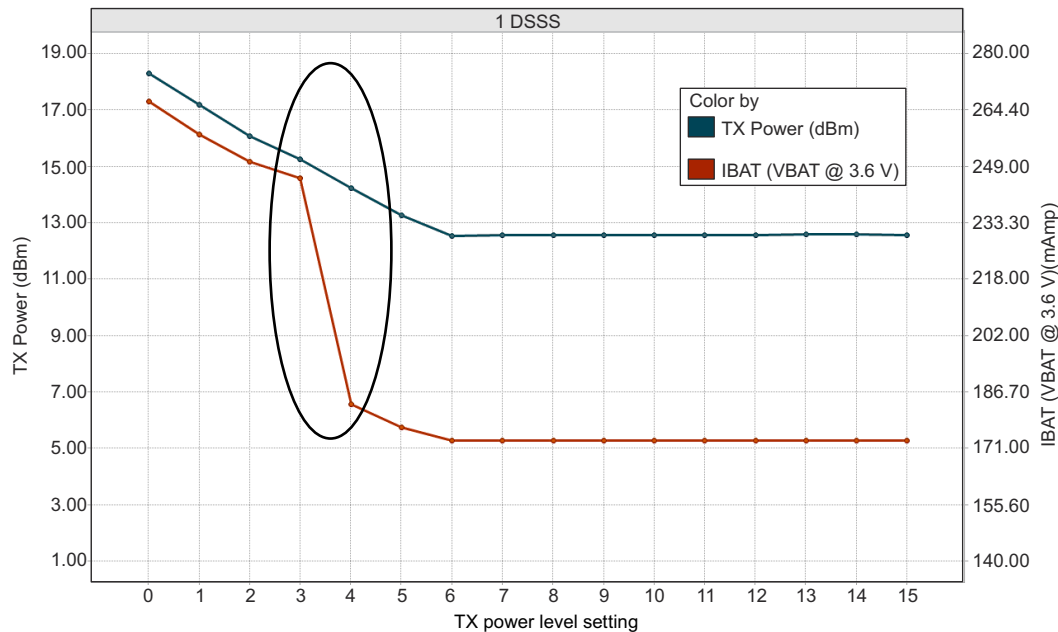
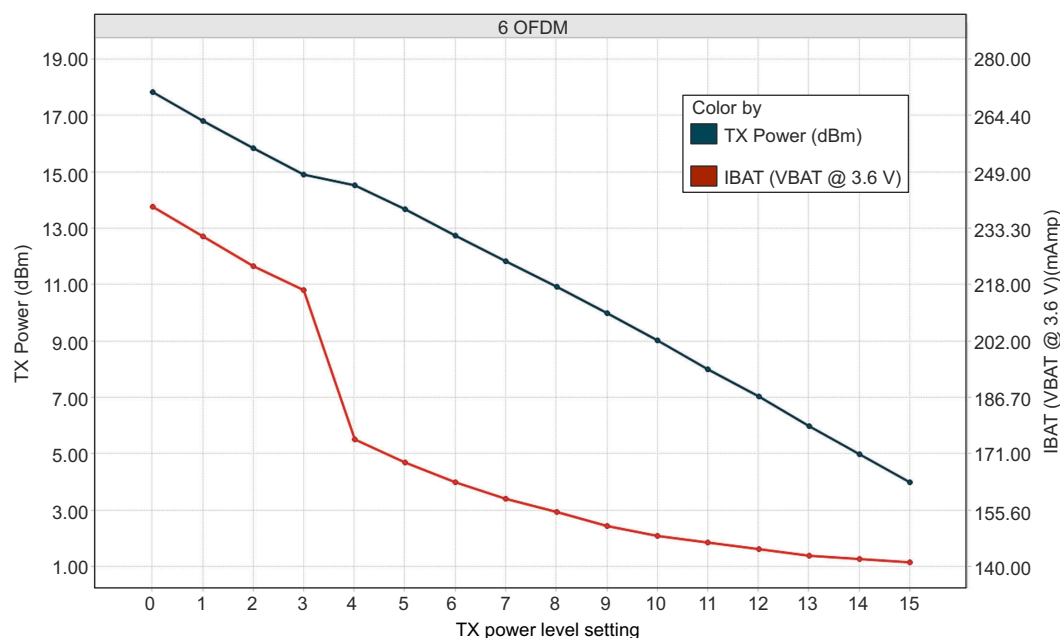
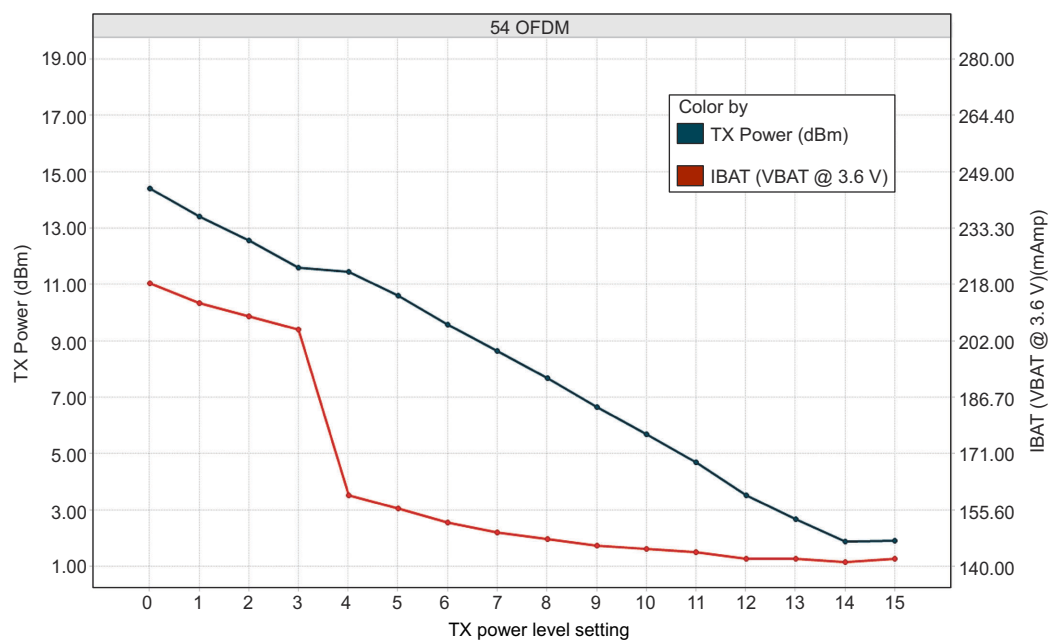

Figure 7-1. TX Power and IBAT vs TX Power Level Settings (1 DSSS)
Figure 7-2. TX Power and IBAT vs TX Power Level Settings (6 OFDM)
Figure 7-3. TX Power and IBAT vs TX Power Level Settings (54 OFDM)
- (1) TX power level = 0 implies maximum power (see Figure 7-2, Figure 7-2, and Figure 7-3). TX power level = 4 implies output power backed off approximately 4dB.
- (2) LPDS current does not include the external serial flash. The CC3235MODx and CC3235MODAx can be configured to retain 0KB, 64KB, 128KB, 192KB, or 256KB of SRAM in LPDS. Each 64-KB block of MCU retained SRAM increases LPDS current by 4 μA .
- (3) DTIM = 1
- (4) The complete calibration can take up to 17 mJ of energy from the battery over a period of 24 ms. Calibration is performed sparingly, typically when coming out of HIBERNATE, and only if the temperature has changed by more than 20°C. The calibration event can be controlled by a configuration file in the serial flash.
- (5) Typical numbers assume a VSWR of 1.5:1.
Figure 7-1, Figure 7-2, and Figure 7-3 show TX power and IBAT versus TX power level settings for the CC3235MODS module at modulations of 1 DSSS, 6 OFDM, and 54 OFDM, respectively. For the CC3235MODSF module, the IBAT current has an increase of approximately 10 mA to 15 mA depending on the transmitted rate. The TX power level remains the same.⁴
In Figure 7-1, the area enclosed in the circle represents a significant reduction in current during transition from TX power level 3 to level 4. In the case of lower range requirements (14-dBm output power), TI recommends using TX power level 4 to reduce the current.